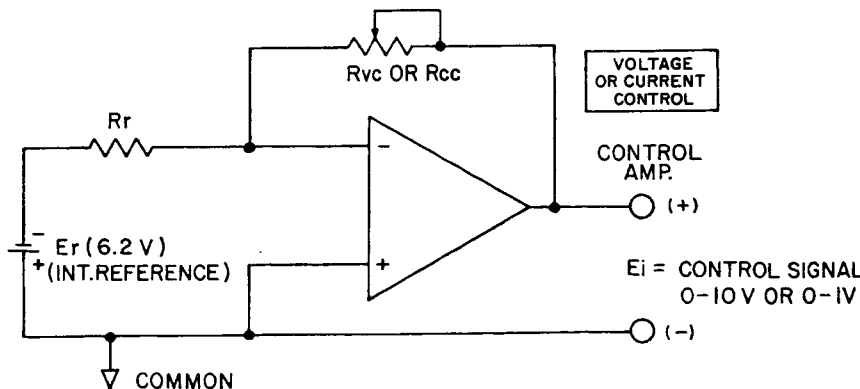

FIG. 4-4 GENERATION OF THE INTERNAL CONTROL SIGNAL FOR THE ATE VOLTAGE AND CURRENT CHANNELS.
- 4-8 The internal feedback components in the voltage, as well as in the current control channel of the ATE are selected for each ATE model such that a 0 to 10 volt d-c signal, applied to the VOLTAGE COMPARISON AMPL. or 0-1 volt to the CURRENT COMPARISON AMPL. control the full output range for each ATE model. For local (front panel) control of the ATE output quantities a CONTROL AMPLIFIER is used in a similar manner for the voltage as well as for the current channel. (See FIG. 4-4) to produce the required 0-10V or 0-1V control signal.
- 4-9 To produce the internal 0–10V or 0–1V control signals ( $E_i$ ), an operational amplifier is used in the inverting configuration as shown in FIG. 4-4. The output equation for the circuit is  $E_i = E_r (R_{vc}/R_r)$ .